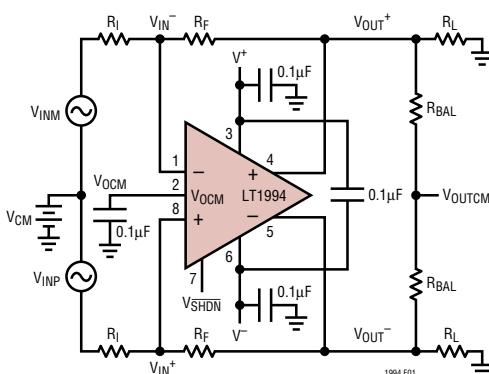

Figure 1. Test Circuit
**Note 7:** Input Common Mode Range is tested using the Test Circuit of Figure 1 ( $R_F = R_I$ ) by applying a single ended 2VP-P, 1kHz signal to  $V_{INP}$  ( $V_{INM} = 0$ ), and measuring the output distortion (THD) at the common mode Voltage Range limits listed in the Electrical Characteristics table, and confirming the output THD is better than  $-40$ dB. The voltage range for the output common mode range (Pin 2) is tested using the Test Circuit of Figure 1 ( $R_F = R_I$ ) by applying a 0.5V peak, 1kHz signal to the  $V_{OCM}$  Pin 2 (with  $V_{INP} = V_{INM} = 0$ ) and measuring the output distortion (THD) at  $V_{OUTCM}$  with  $V_{OCM}$  biased 0.5V from the  $V_{OCM}$  pin range limits listed in the Electrical Characteristics Table, and confirming the THD is better than  $-40$ dB.
a need for ADCs to process signals differentially in order to maintain good signal to noise ratios. These ADCs are typically supplied from a single supply voltage that can be as low as 2.5V and will have an optimal common mode input range near mid-supply. The LT1994 makes interfacing to these ADCs trivial, by providing both single ended to differential conversion as well as common mode level shifting. Figure 1 shows a general single supply application with perfectly matched feedback networks from OUT+ and OUT-. The gain to VOUTDIFF from VINM and VINP is:
The input impedance looking into the  $V_{\text{INP}}$  or  $V_{\text{INM}}$  input of Figure 1 depends on whether or not the sources  $V_{\text{INP}}$  and  $V_{\text{INM}}$  are fully differential. For balanced input sources ( $V_{\text{INP}} = -V_{\text{INM}}$ ), the input impedance seen at either input is simply: